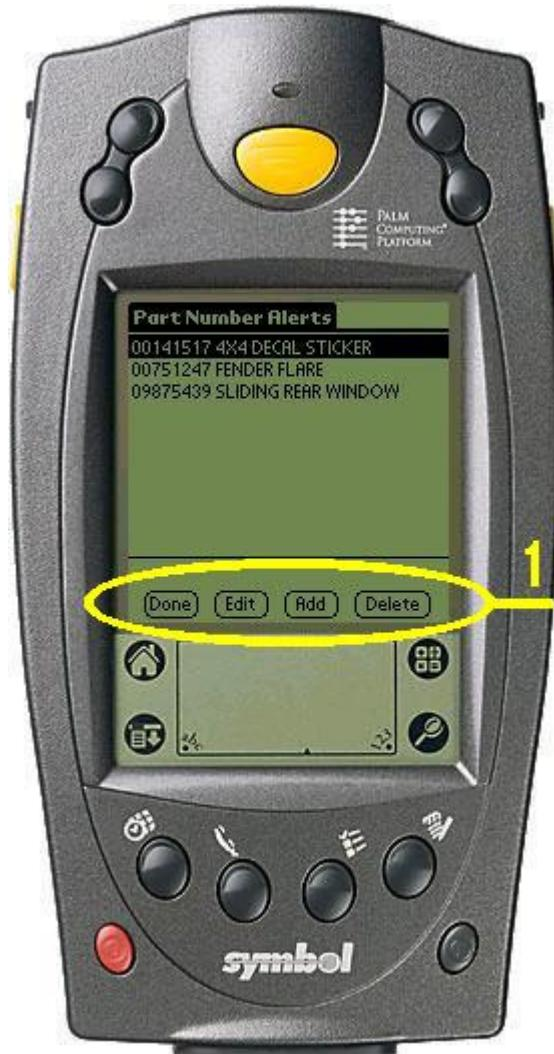

FIGURE 26. ALERTS SETUP COMPLETED MENU
The Alerts Setup Completed Menu (see Figure 26), shows 3 parts bin part numbers as being setup to display a pop up box containing the text of your choice when these parts bin numbers are scanned (see Figure 27). The user may edit, add, or delete part numbers from this menu (see item 1, Figure 26).